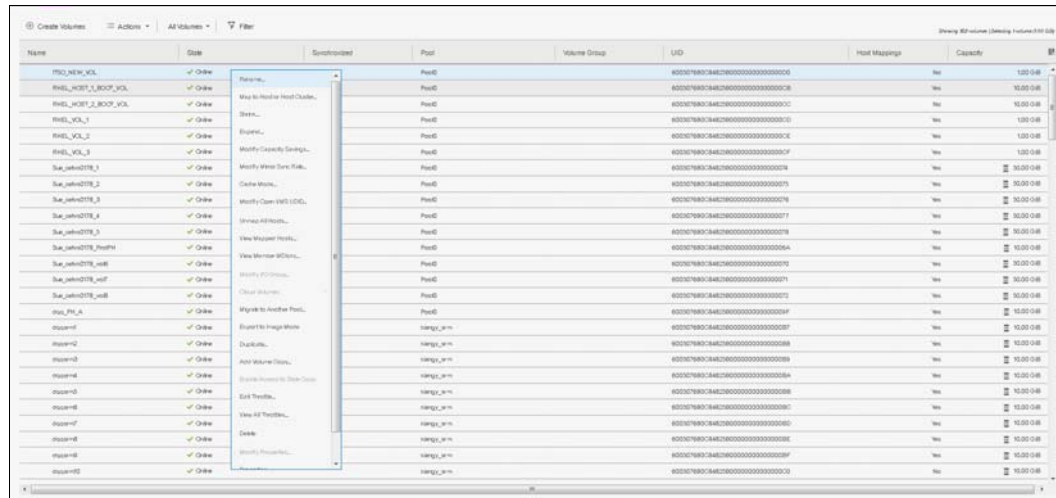

Figure 6-44 Select Map to Host or Host Cluster
1. Right click on the volume name to be mapped and select **Map to Host or Host Cluster** menu option as shown in Figure 6-44 on page 307.